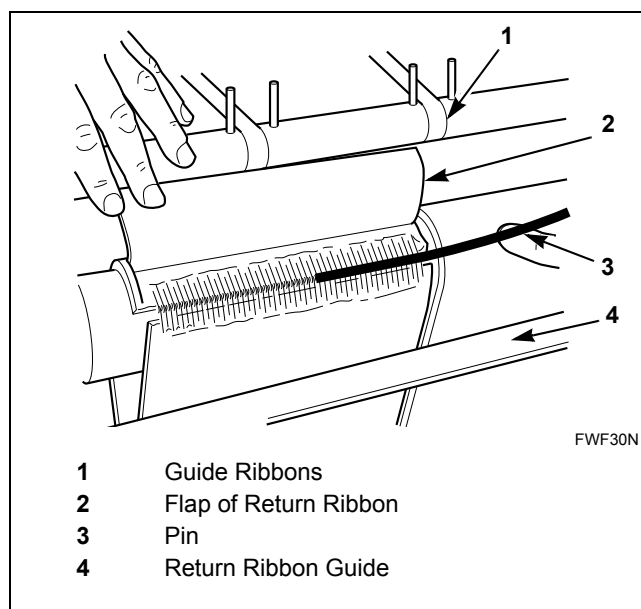

Figure 35
7. Remove pin from teeth of return ribbon. Refer to *Figure 35*.